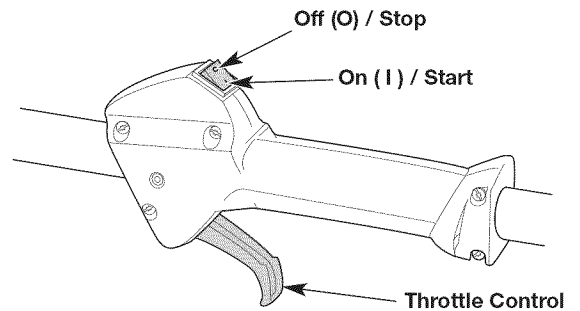
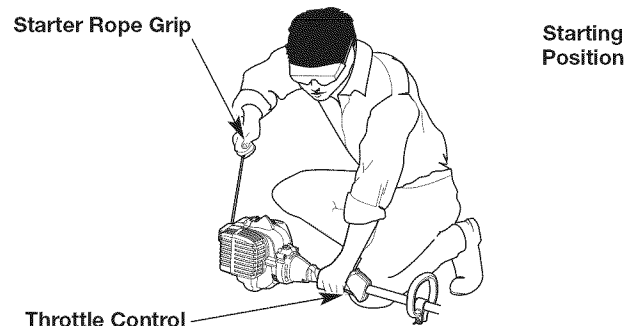

Fig. 6
Fig. 8
WARNING: Avoid accidentally starting the unit. To avoid serious injury, the operator and the unit must be in a stable position when pulling the starter rope (Fig. 8).
NOTE: There is no need to turn the unit on. The On/Off switch is in the ON (I) position at all times (Fig. 6).
4. Crouch in the starting position (Fig. 8).
5. Squeeze and hold the throttle control (Fig. 6). Pull the starter rope with a controlled and steady motion until the unit starts (Fig. 8).
2. Press and hold the On/Off switch in the OFF (O) position until the engine comes to a complete stop (Fig. 6).
- NOTE:** There is no need to turn the unit on. The On/Off switch is in the ON (I) position at all times (Fig. 6).
6. Squeeze and hold the throttle control (Fig. 6). Run the Speed Start™ accessory in intervals no longer than 2 seconds each until the unit starts.